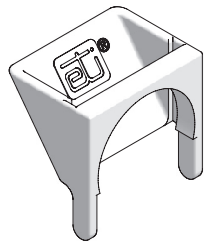

Figure 2. Optional
1. Where it will detect initial snow and ice, position or lay sensor within 1/4"(6.4mm) of the gutter bottom. For applications not using the optional Moisture Sensor Cup (Figure 2; see its manual, p/n 23973), ensure moisture sensing grid (Figure 3) faces downstream (ambient air temperature sensor facing upstream) to avoid collecting debris against the grid. Avoid locations where puddling may occur. Sensor may be fastened to the fascia with the included mounting clamps, using #8 or #10 screws or bolts and standoffs as required (not furnished).